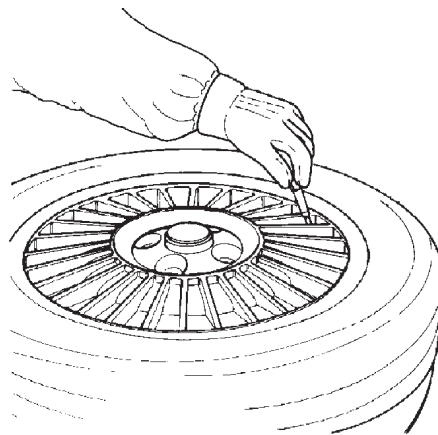

Fig. 4.1-1
- A.** Remove all wheel-weights from the rim. Remove the valve stem or valve stem core and deflate the tire (Fig. 4.1-1).